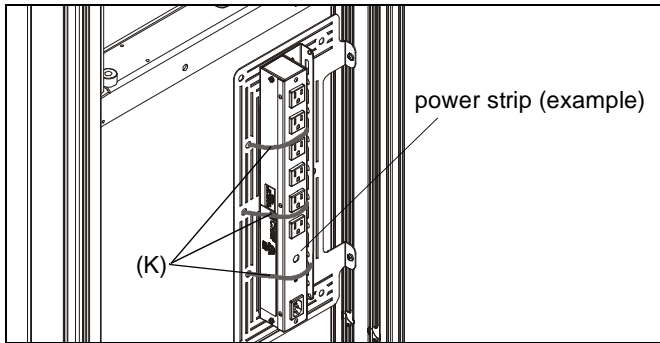

Figure 13
5. Install components to component bracket as desired using cable ties (K), cable clips (T) or screws. (See Figure 13)